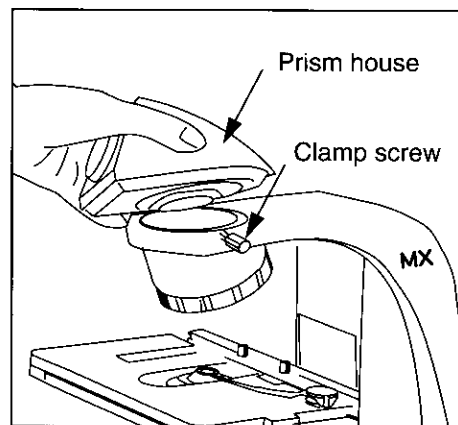
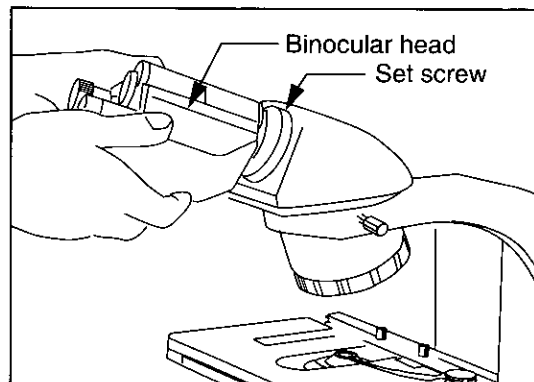

Figure 1
Figure 2
- Loosen the clamp screw on the microscope limb and then install the prism house of the viewing head (Fig.1) and mount the binocular head to the prism house (Fig.2) by tightening the set screw. Re-tighten the clamp screw while the head is in the correct position as shown.